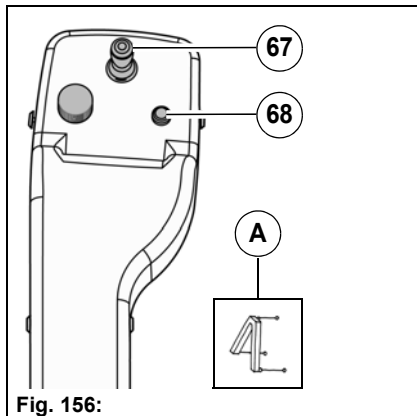

Fig. 156:
1. Switch on the work mode with the Hako button **Fig. 156-68**. The accelerator pedals must be in the neutral position. The coupling triangle work mode symbol appears in the multifunctional display **Fig. 156-A**.